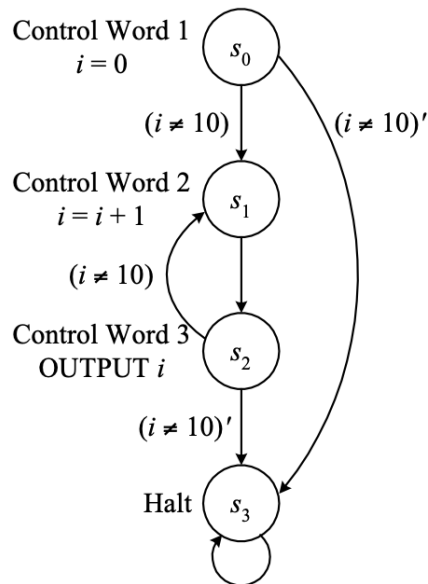

Figure 4: State diagram of control unit for counting 1 to 10
The state diagram of control unit is derived as shown in Figure 4.
1. Write a VHDL file that defines a finite state machine (FSM) depicted in Figure 4. Your code should include a state variable that hold the current state ( $s_0...s_3$ ), a reset input to initialize the state to  $s_0$  and the control signals ( $iLoad$ ,  $Clear$  and  $Out$ ) as outputs to the datapath. Compile the circuit. How many logic elements (LEs) are used to implement your circuit?